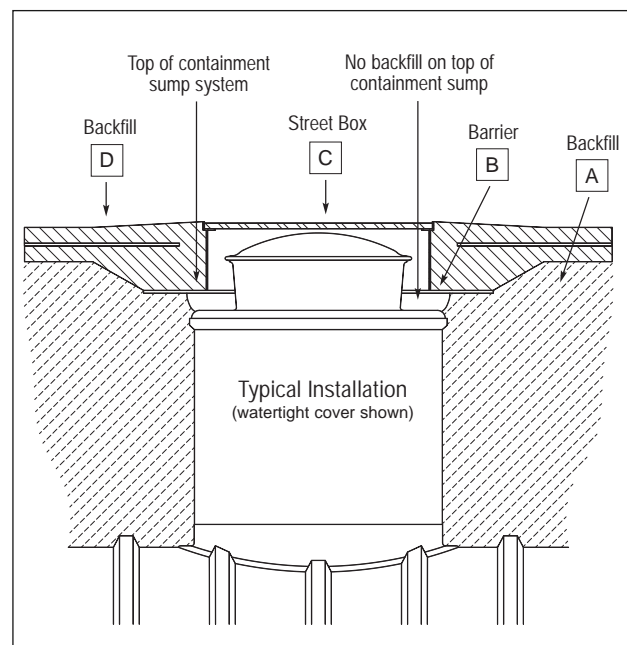

FIGURE 18-1
18.2.2. Backfill around the outside edge of the containment sump, making sure that no backfill is on top of the containment sump. (See FIGURE 18-1, Area A.)
18.2.3.2. Typically, a sheet of plywood (or other material) is used as a barrier and is set on the pea gravel to ensure that there is at least a 3-inch clearance above the containment sump top. (See FIGURE 18-1, Area B.)
18.2.5. Set the street box, and check for clearance to allow access and space to remove the watertight cover. (See FIGURE 18-1, Area C.)
18.2.6. Continue with backfill, as required, to subgrade. (See FIGURE 18-1, Area D.)